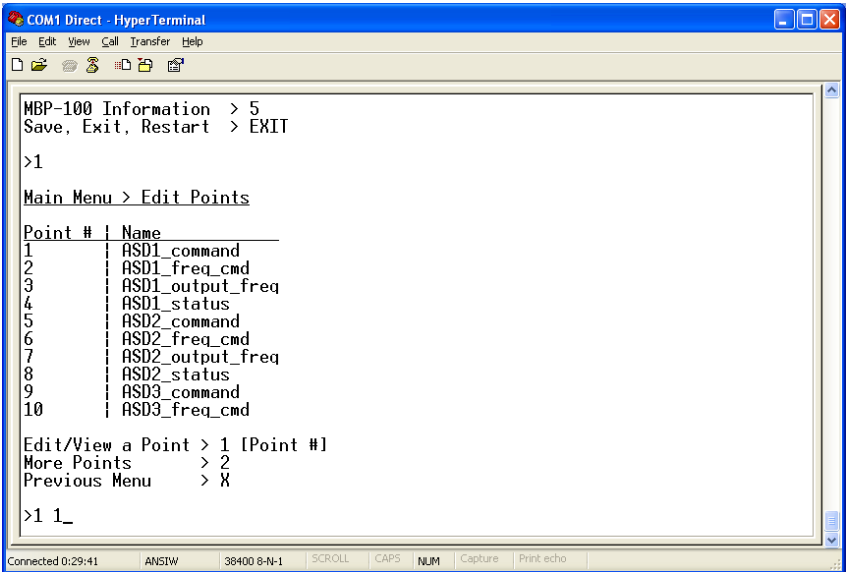
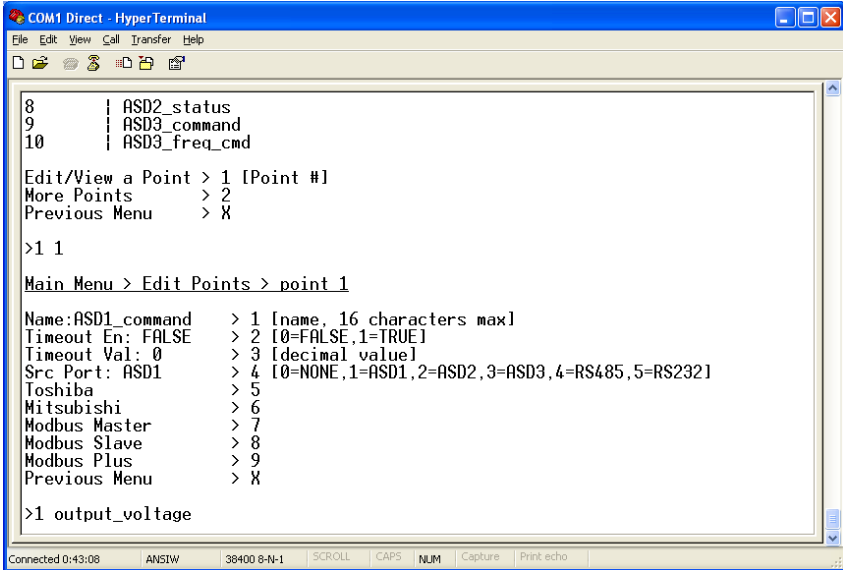

Figure 15: View/Edit Points
Figure 16: Edit a Point
Main menu selection number 1 displays a screen which shows a summary of the current point configuration (see Figure 15). This screen only displays the point number and the point name: in order to access more detailed point information, menu selection number 1 “Edit/View a Point” must be entered with the additional argument of the targeted point’s number. The syntax used to edit/view point #1 is shown at the bottom of Figure 15.
Entering “1” with a point’s number (such as “1 1”, as shown at the bottom of Figure 15) at the Edit Points submenu will display and allow editing of that point’s mapping and definition information. Refer to Figure 16 for an example.
- **Edit Name:** Menu selection number 1 allows you to change the point's name. For example, the bottom of Figure 16 shows an example of changing point #1's name to output_vol tage. The point's name is purely for user recognition of a point, and has no bearing upon communications functionality. To clear the point's name field, just enter the menu selection ("1") with no additional argument.